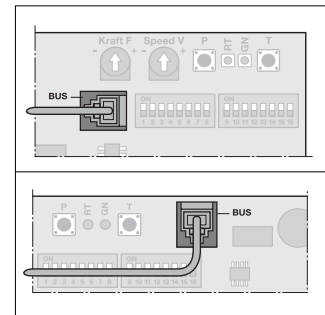

Fig. 2
3.1 Connecting the receiver to the operator (fig. 2)
3.1 Ansluta mottagaren till maskineriet (fig. 2)